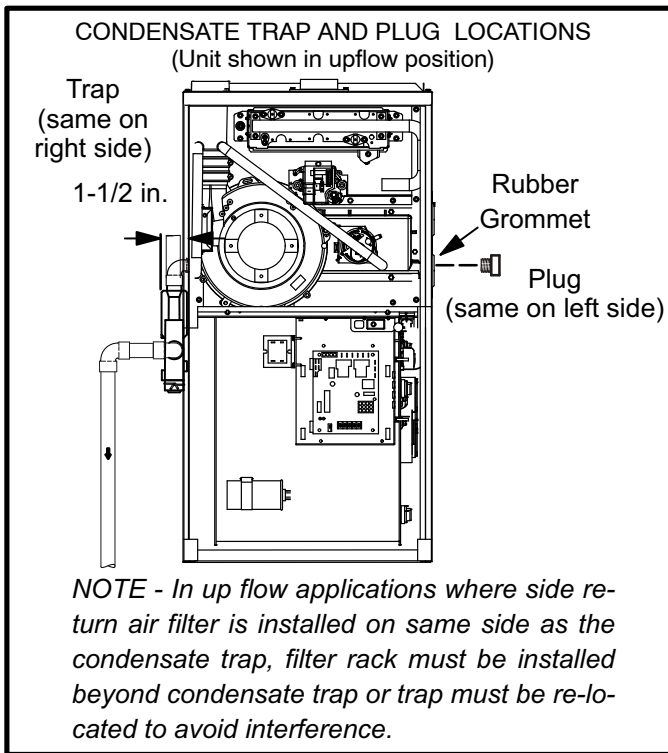
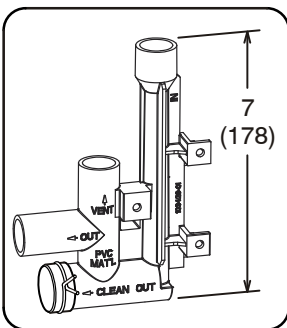

FIGURE 45
FIGURE 53
This unit is designed for either right- or left-side exit of condensate piping in up flow applications. In horizontal applications, the condensate trap must extend below the unit. An 8" service clearance is required for the condensate trap. Refer to figures 45 and 47 for condensate trap locations. Figure 53 shows trap assembly using 1/2" PVC or 3/4" PVC.
- 2 - Use a large flat head screw driver or a 1/2" drive socket extension and remove plug (figure 45) from the cold end header box at the appropriate location on the side of the unit. Install provided 3/4 NPT street elbow fitting into cold end header box. Use Teflon tape or appropriate pipe dope.
- 3 - Install the cap over the clean out opening at the base of the trap. Secure with clamp. See figure 53.
- 4 - Install drain trap using appropriate PVC fittings, glue all joints. Glue the provided drain trap as shown in figure 53. Route the condensate line to an open drain. *Condensate line must maintain a 1/4" downward slope from the furnace to the drain.*